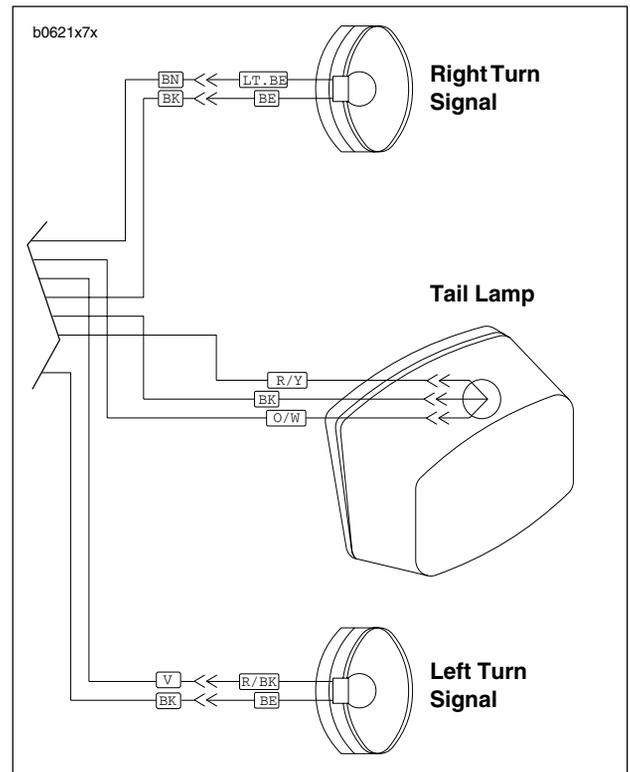

Figure 7-44. Rear Turn Signal Connections
3. See Figure 7-44. Disconnect bullet connectors on turn signal wires.
2. Attach bullet connectors on turn signal wires as shown in Figure 7-44.